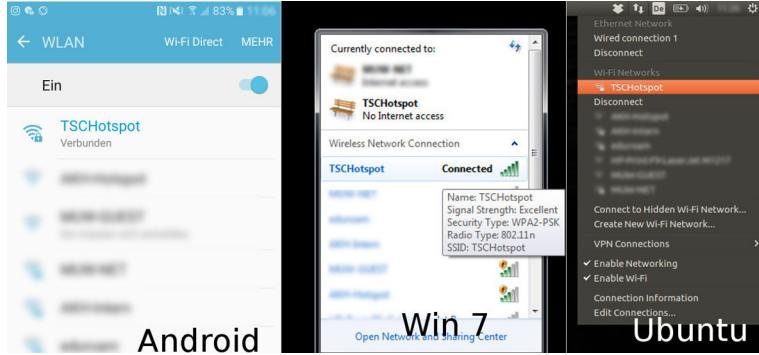

Figure 22: Various views of the autonomous **TSCHotspot** WLAN access point spawn by TSC.
- Select **TSCHotspot** as your WLAN access point (see also Sect. 5 and Fig. 22).
tablets can connect to it. The default name for this autonomous WLAN access point is **TSCHotspot**. Fig 22 shows the looks of accessing TSC.